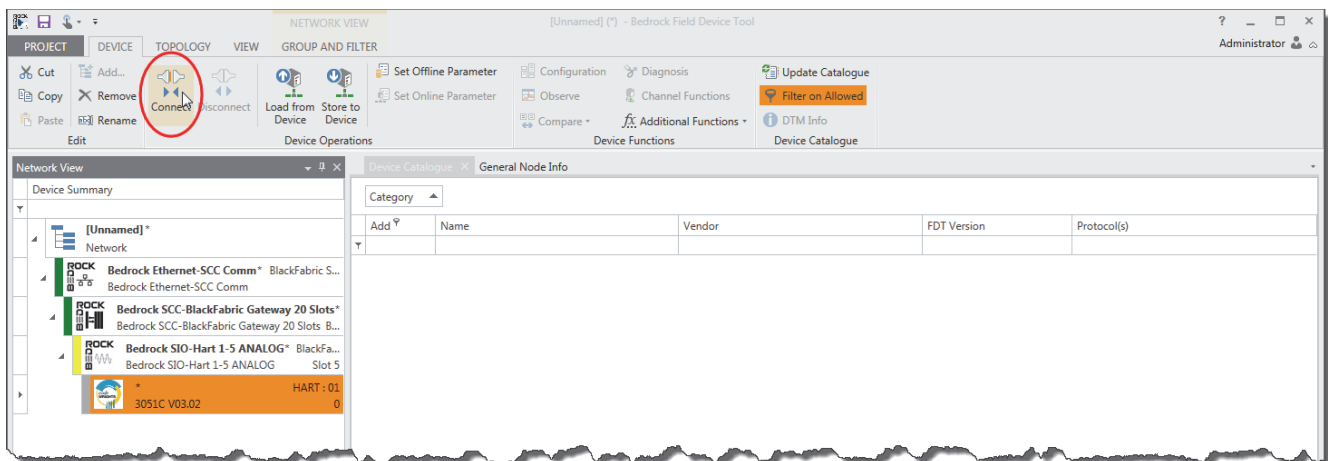

Figure 11-15 Device DTM Added to Network View
17. The Network View pane will be updated with device DTMs as shown in Figure 11-15. Do one of the following: